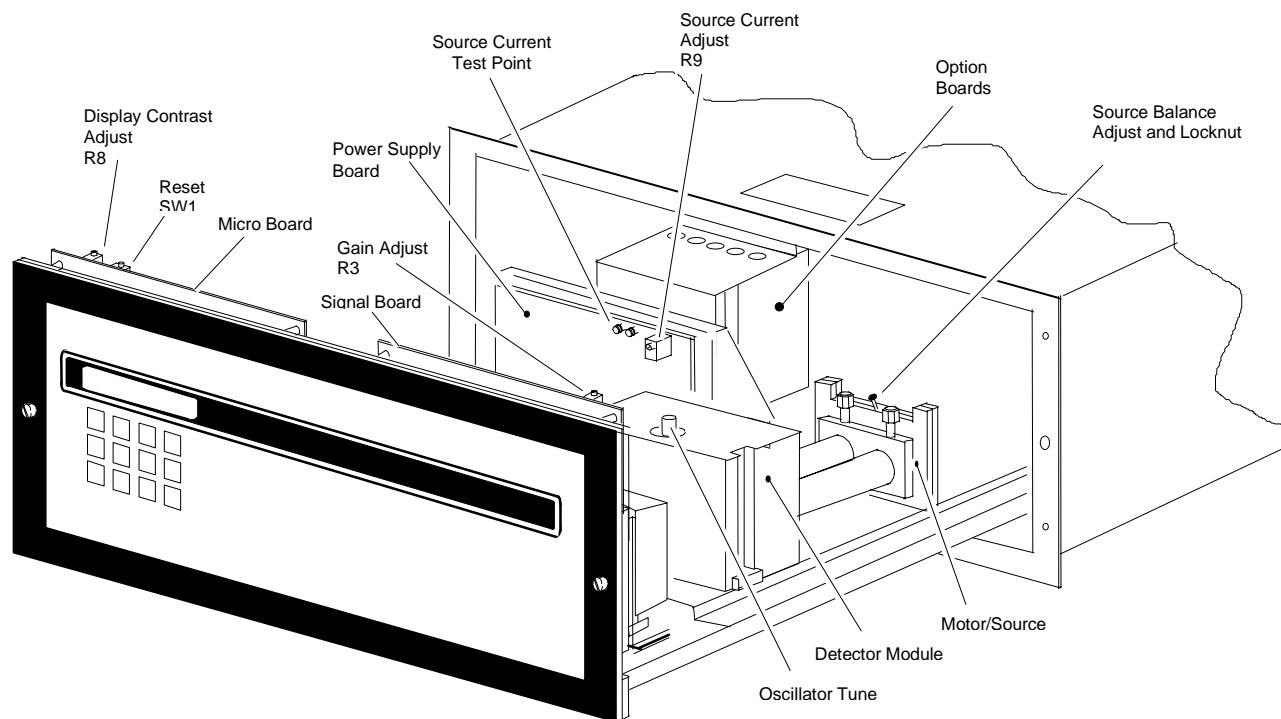

FIGURE 3-1 MODEL 880A ADJUSTMENTS
The display consists of a 16-character LED-backlighted Liquid Crystal Display. The contrast on the display may be adjusted so that the display can be read from any vertical angle. This adjustment is made by loosening the two screws on the front of the case and sliding the front panel forward, then turning the potentiometer (R8) to adjust the contrast until the best view of the display is obtained. See Figure 3-1.
1. Press and release the RESET push-button switch on the Micro Board (see Figure 3-1).